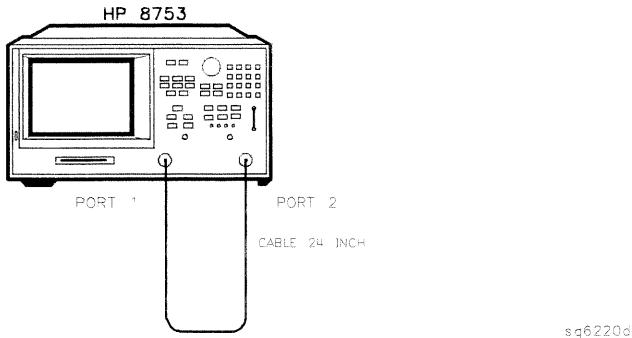

Figure 2-37. System Trace Noise Test Setup
1. Connect the equipment as shown in Figure 2-37.